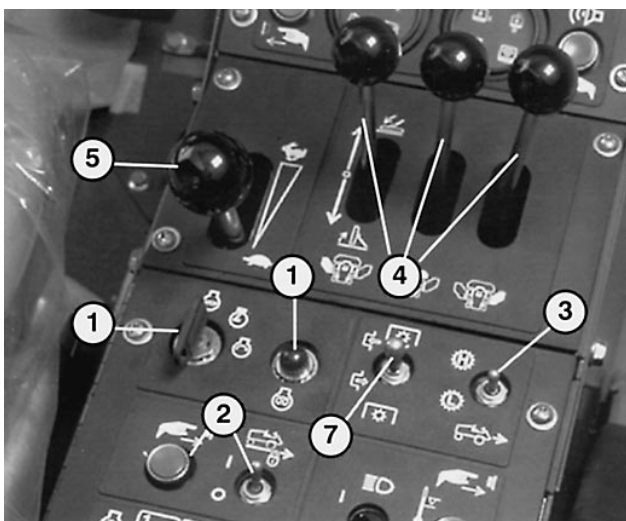

Figure 21
3. Turn the ignition key switch to the START position (Fig. 21). Release the key immediately when the